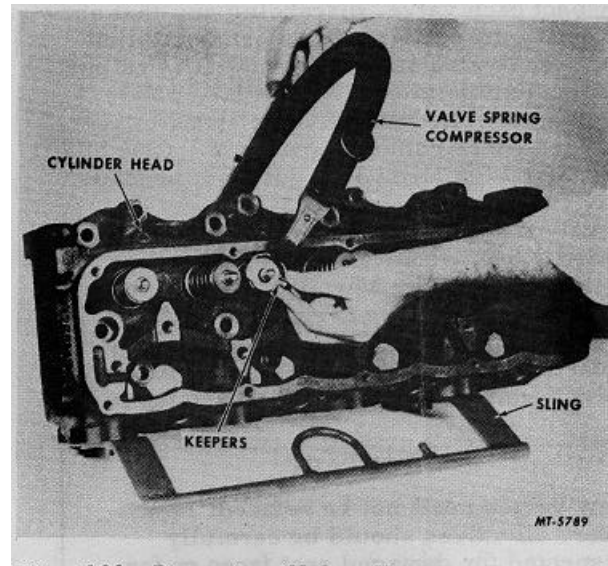

Fig. 122 Removing Valve Keepers
SE-1896 cylinder head sling can be used as a holding fixture (Figure 122) to protect machined surfaces during cleaning and miscellaneous disassembly operations.
- a. Place head assembly in vertical position. Apply valve spring compressor and remove valve keepers or locks (Figure 122). It may be necessary to strike valve ends with a light, soft hammer to loosen valve keepers.